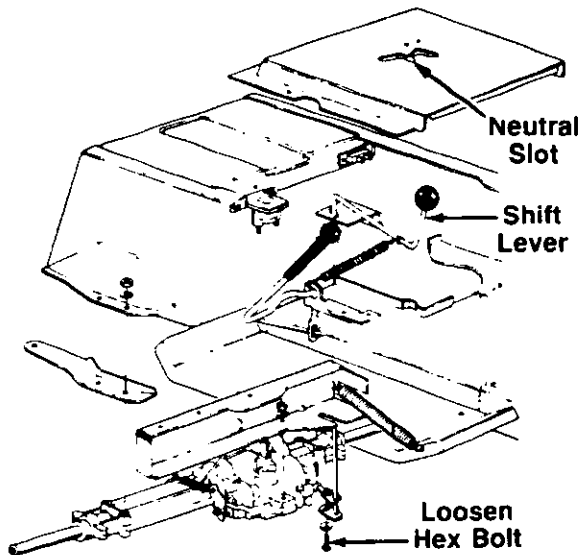

**FIGURE 19.**
**SPEED CONTROL ADJUSTMENT (See figure 19)**
First, adjust the speed control lever by pushing the clutch-brake pedal forward until the stop on the speed control rod is against the running board rod. See figure 19. Have another person hold the pedal in this position as you make the following adjustment. Place the speed control lever in parking brake position. Remove the hairpin cotter and flat washer, and adjust the ferrule on the rod so it is against the back end of the slot. See figure 19. Replace the flat washer and hairpin cotter.